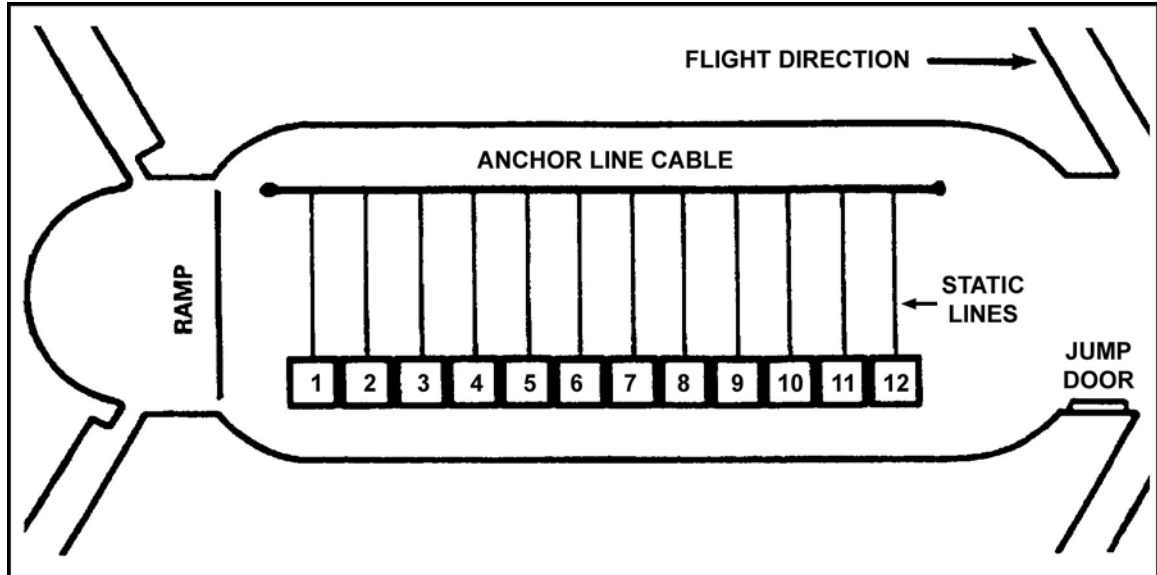

Figure 18-8. CH-46 ramp jump.
- (1) **GET READY.** All parachutists in the first stick unfasten their seat belts.
- (2) **STAND UP.** Parachutists stand up and move to the port side (Figure 18-8).
- (3) **HOOK UP.** When the command HOOK UP is given, the jumpers ensure the cotton sleeve is on the static line extension, attach their static line snap hooks, insert and bend safety wires, and hold the static line snap hook exposed for inspection by the JM. Once inspected, place the sleeve over the snap hook and take a reverse bite at waist level.
- (4) **CHECK STATIC LINES.** The parachutists take a reverse bight at waist level of about 8 inches in the static line with the right hand, keep the arm close to the side, and check the static line of the parachutist to the front.
- (5) **CHECK EQUIPMENT.** All parachutists check their equipment.
- (6) **SOUND OFF FOR EQUIPMENT CHECK.**
- (7) **STAND BY.** Number 1 assumes a standing position at the ramp hinge. The remaining parachutists close up the interval.
- (8) **GO.** Number 1 walks off the starboard rear of the ramp and assumes a normal body position. The remaining parachutists follow and exit in the same manner as number 1, maintaining a 1-second interval between parachutists. Upon exit of all parachutists, the crew chief or static JM recovers all static lines.